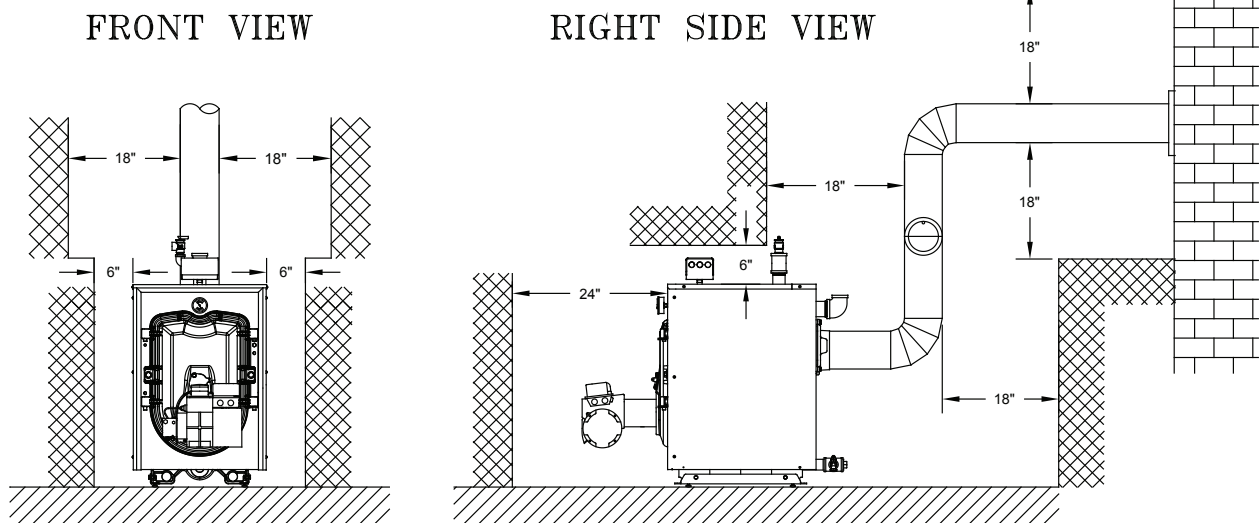

Figure 2A: Chimney Vent - Minimum Installation Clearances To Combustible Materials (Inches)
(Note: This dimension will also be controlled by horizontal to vertical to horizontal smokepipe arrangement - **Chimney Vent** (see Figures 2A and 13).
5. For minimum clearances to combustible materials. See Figures 2A and 2B.